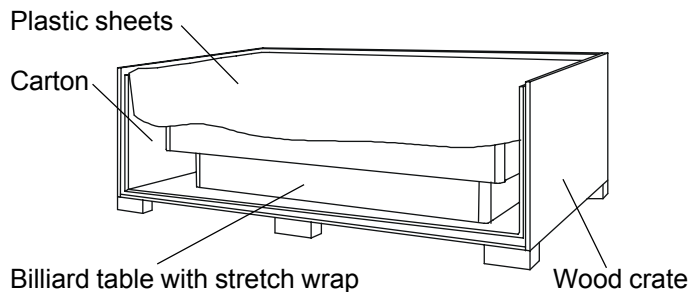

Fig.2
2.) Remove screws holding sides and top of the crate so table may easily be removed from the crate. A minimum of four capable adults will be required to move the table, as well as two four wheels furniture-moving dollies, Table weighs approximately 900 lbs. (See Fig. 2)